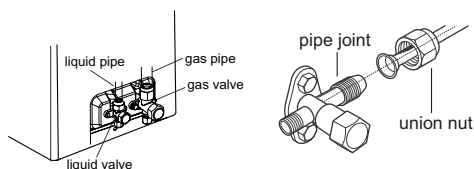

Fig.21
2. Remove the screw cap of valve and aim the pipe joint at the bellmouth of pipe.(As show in Fig.21)